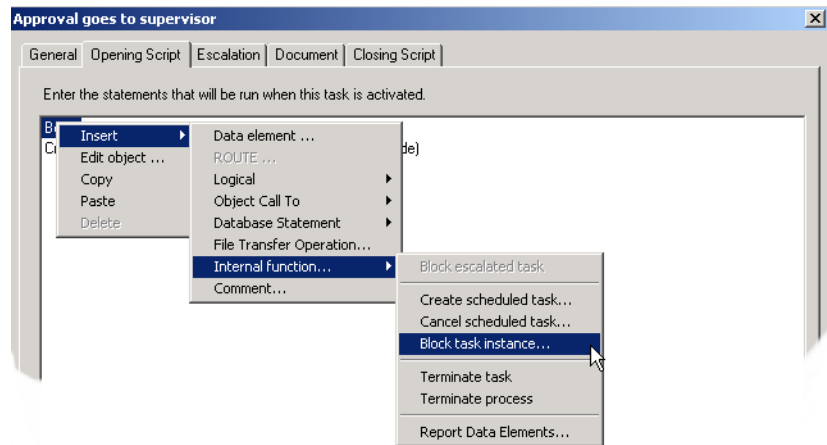

Figure 35-8. Task Configuration dialog with the **Block Task Instance** function selected.
- 1 To block a task instance, click on the **Opening** or **Closing Script** tab, right-click on a statement, select the **Insert** drop-down menu, select the **Internal Functions** drop-down menu, then select **Block Task Instance** (see Figure 35-8, below).